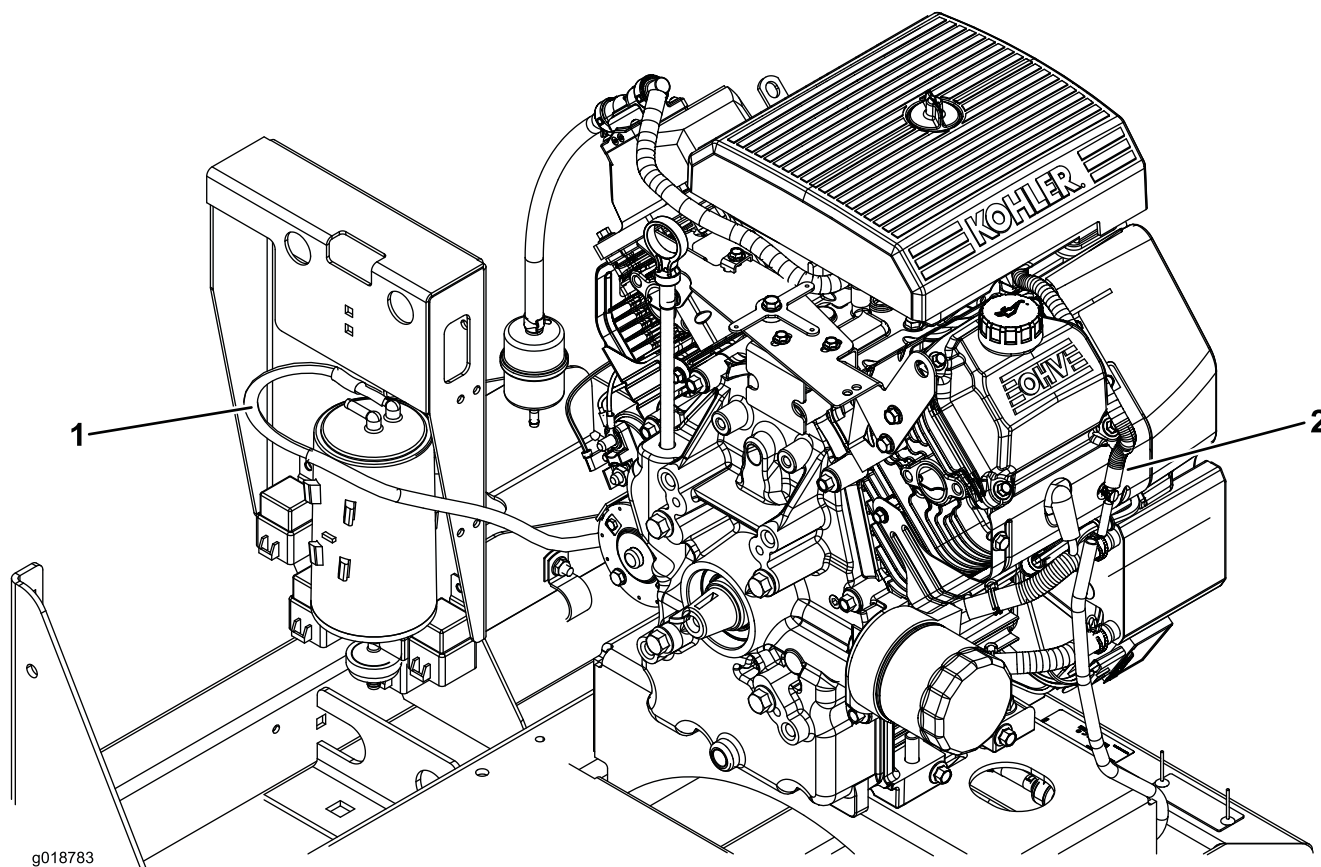

Figure 1
2. Disconnect the check valve hoses from the fitting on the carbon canister and the engine (Figure 1).